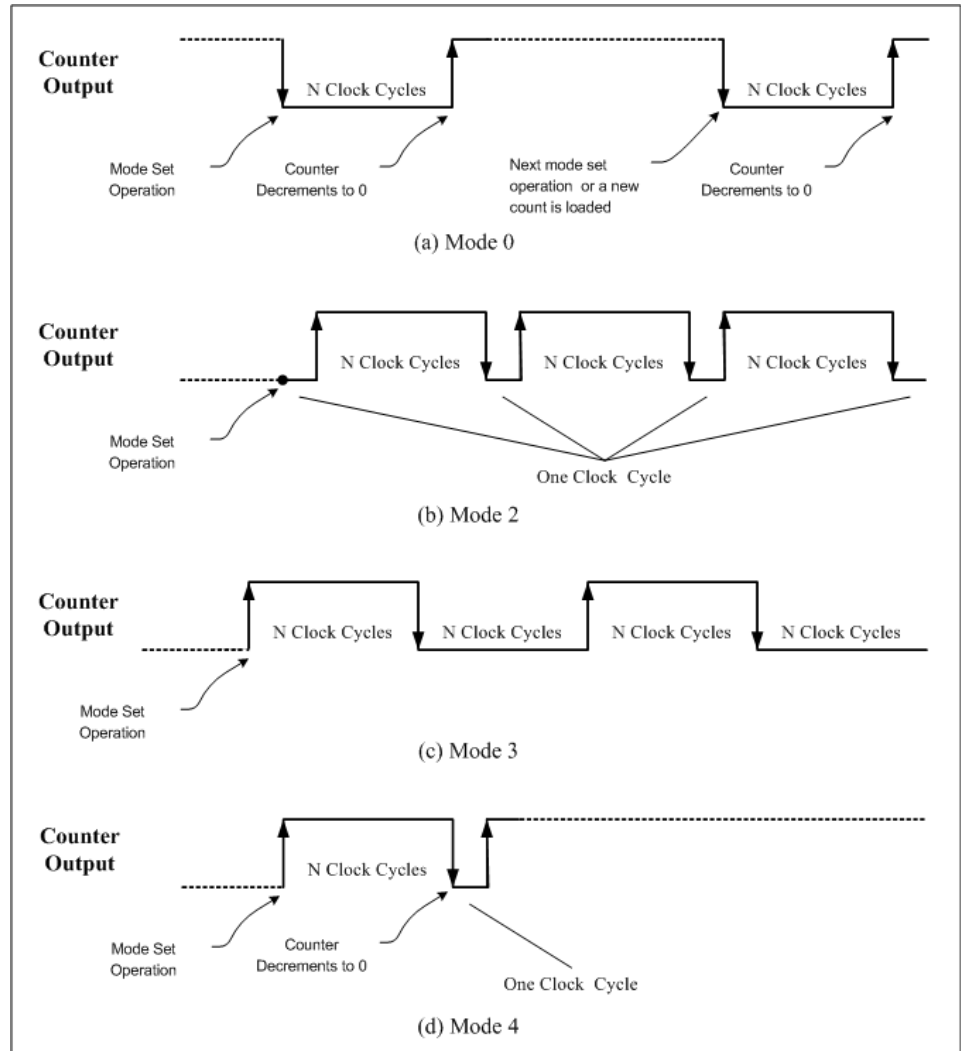

Figure 3.3: Counting modes of the 8253 PIT chip
**Mode 0 - Interrupt on Terminal Count:** The output goes low after the mode set operation, and remains low while counting down. When the count decrements to zero, the output goes high and remains high until then next mode is set or a new count is loaded. See Figure 3.3 (a).
**Mode 2 - Rate Generator:** A divide by N counter. The output is low for one input clock period and then high for N clock periods. This cycle repeats until a new mode is selected. See Figure 3.3 (b).
**Mode 3 - Square Wave Rate Generator:** Similar to Mode 2, except that the output is high for the first half of the count and goes low for the other half. See Figure 3.3 (c).
**Mode 4 - Software Triggered Strobe:** The output goes high once the mode is set, and remains high while the counter is decremented. When the counter decrements to zero, the output goes low for one clock cycle and then goes high again. The output will remain high until a new mode or count is loaded. See Figure 3.3 (d).